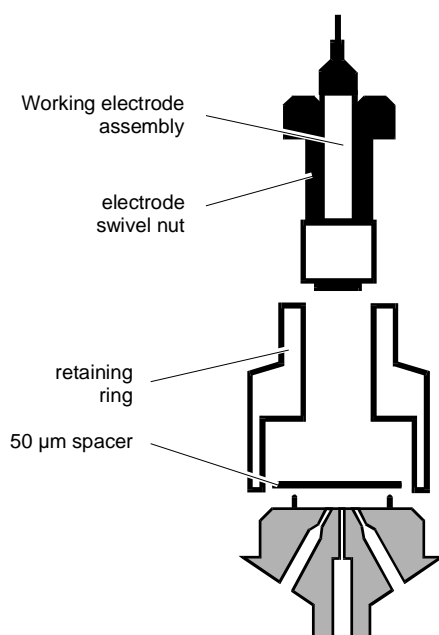

Fig. 8. Assembling the ReactorCell: first fit the spacer and the retaining ring, then WE assembly and the electrode swivel nut.
4. Put the working electrode with the face down on the disc and polish the electrode with a 'figure 8' motion for about one minute. Apply only gentle pressure with one finger.